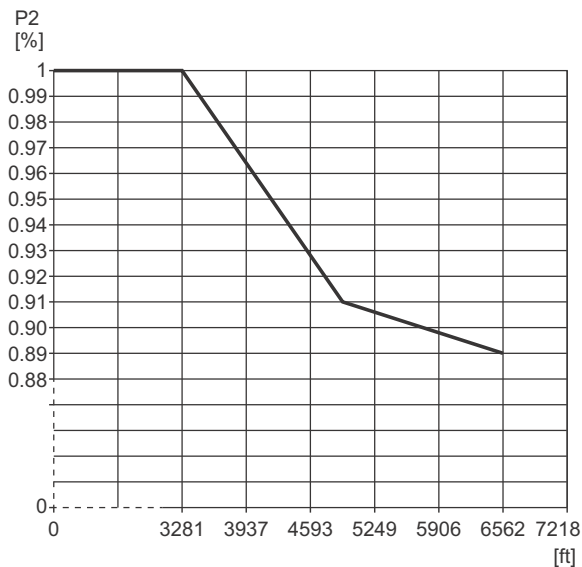

Fig. 13 Derating of motor output power (P2) in relation to altitude above sea level
- Motors installed more than 3281 ft (1000 m) above sea level must not be fully loaded due to the low density and consequent low cooling effect of the air. See fig. 13.